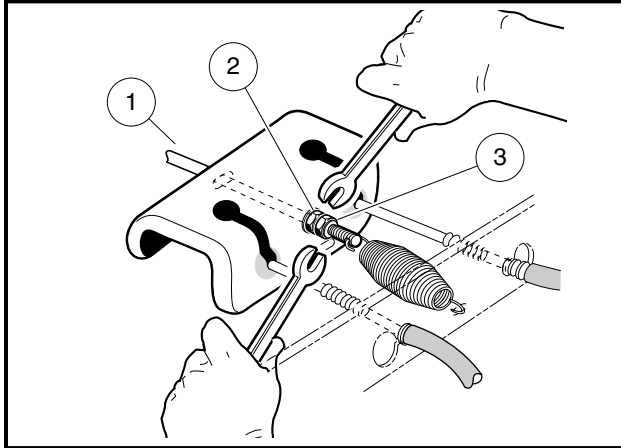

Figure 5-10 Loosen Rear Brake Equalizer Rod Nuts
- 2.2. To provide slack in the brake cables, loosen the equalizer retaining nuts (2 and 3) on the equalizer rod (1) (**Figure 5-10, Page 5-17**).